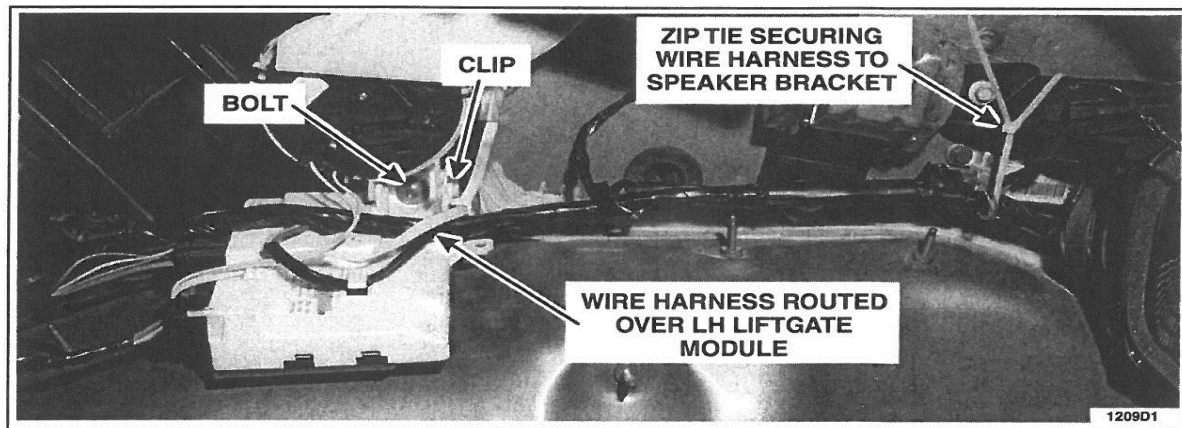

FIGURE 3
9. Reposition the LH wheel well wire harness. See Figure 3.